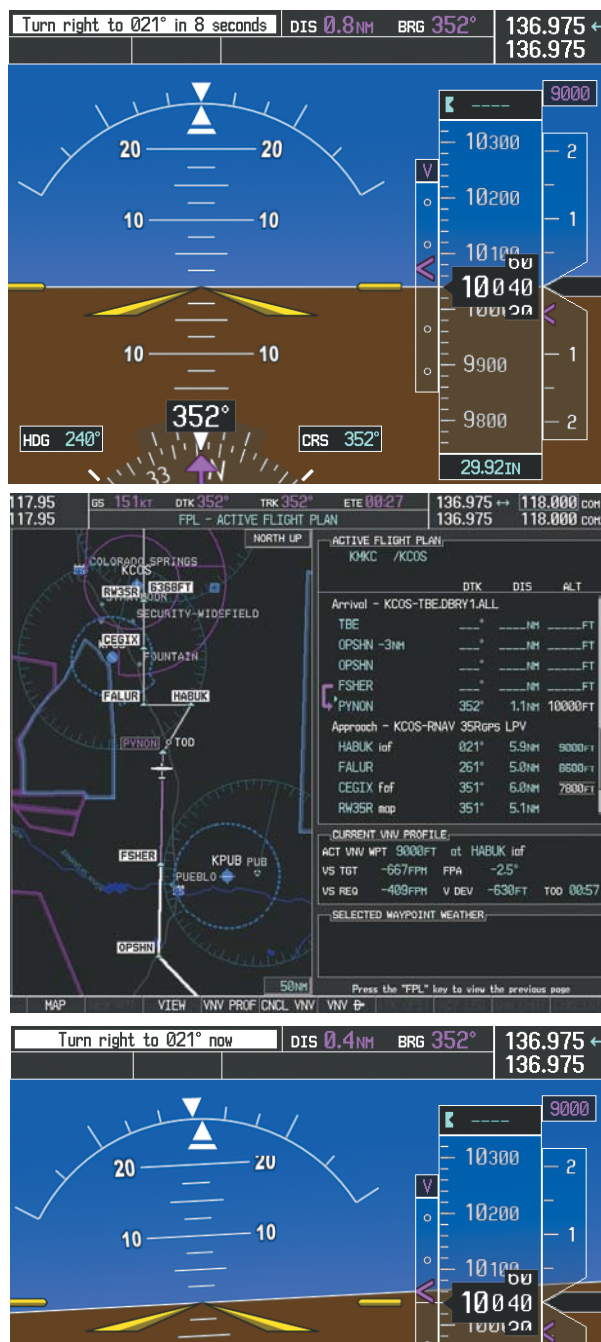

Figure 7-43 Approaching PYNON
- 20) The flight continues through the arrival procedure to PYNON (see Figure 7-43). At a point 31 nm from the destination airport, the phase of flight scaling for the CDI changes to Terminal Mode and is annunciated by displaying 'TERM' on the HSI.